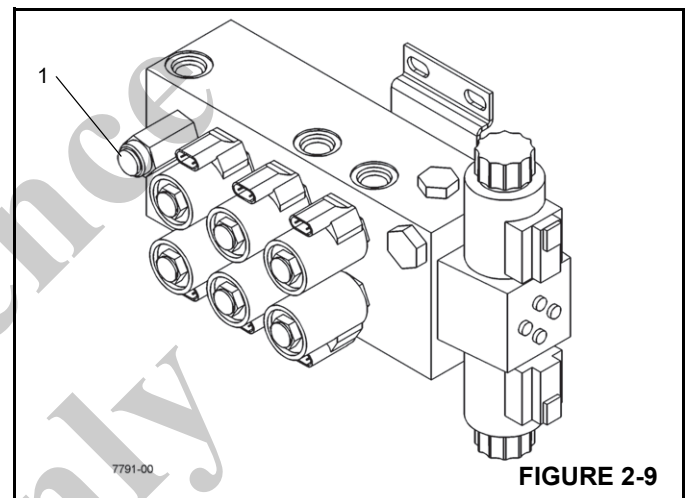

FIGURE 2-9
4. Activate the extend function for the selected outrigger. Verify the relief pressure is $6895 + 345/-0$ kPa ($1000 + 50/-0$ psi). The relief valve (1) for the outrigger circuit is located on the front outrigger control manifold, Figure 2-9. Remove the cap on the relief valve to access the adjustment screw.